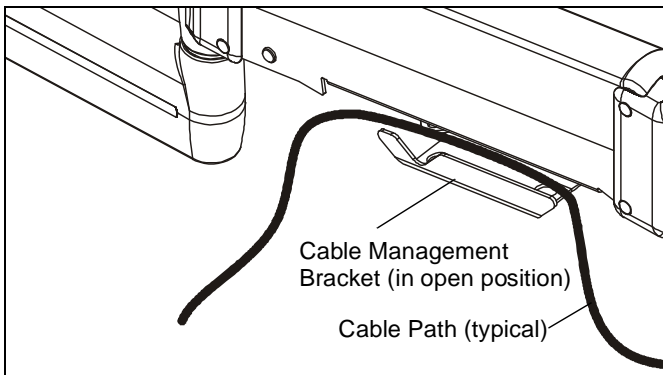

Figure 53
- Carefully insert cables into bracket. (See Figure 53)